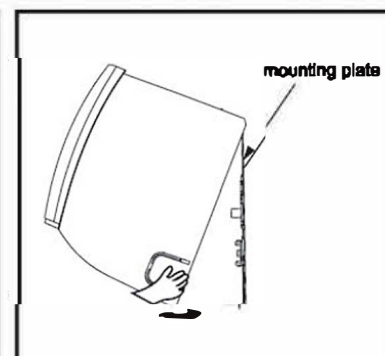

Fig. 412
- 1) Hang the unit onto mounting plate (Fig. 412).